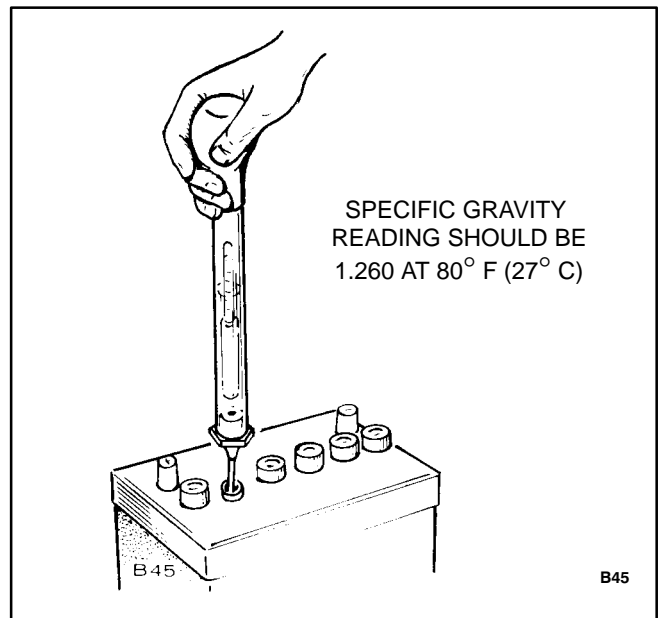

FIGURE 11. BATTERY CHECK
5. Use a battery hydrometer to check the specific gravity of the electrolyte in each battery cell (Figure 11). Charge the battery if the specific gravity measures less than 1.215. Do not overcharge the battery. Stop charging the battery